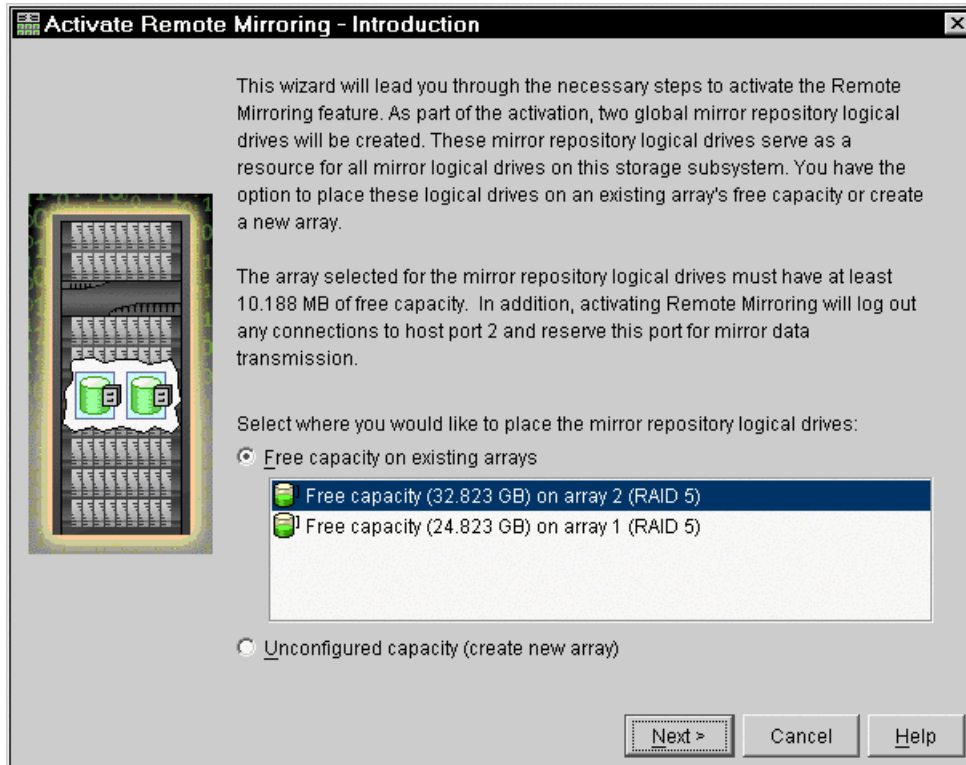

Figure 6-13 Activate Remote Logical Drive Mirroring - Introduction window
2. The Activate Remote Logical Drive Mirroring - Introduction window opens (Figure 6-13). Decide where the mirror repository logical drives will reside. Select one of the following options: